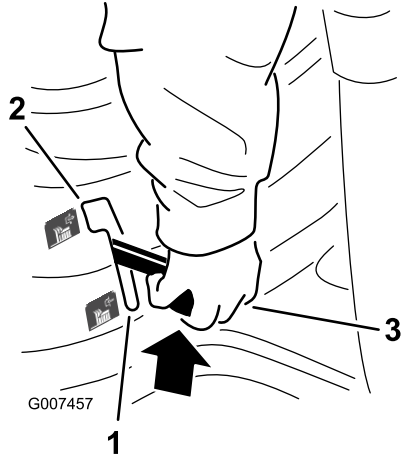

Figure 7
2. Slowly shift the blade control (PTO) to Engage (Figure 7).
- 2. Shift the blade control (PTO) to Disengage (Figure 7).